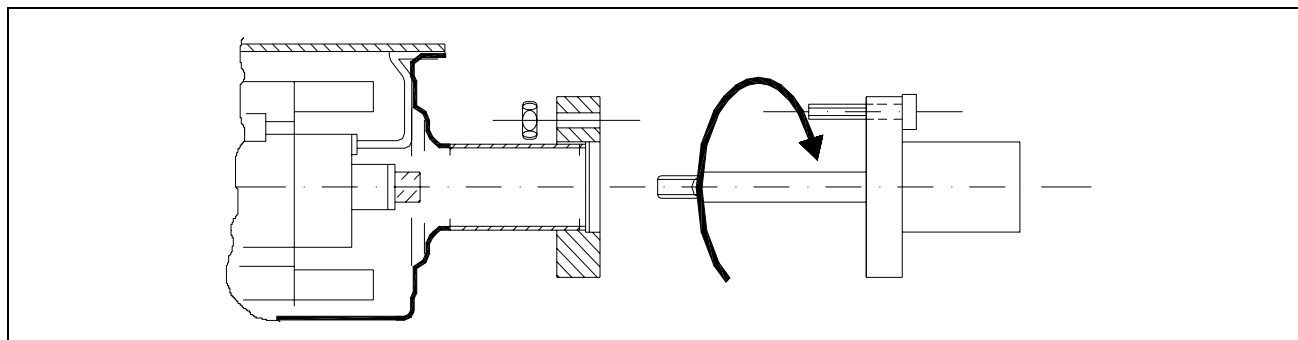

Fig. 19 - High voltage feedthrough connection
1. Remove the 6 bolts of the Mini-ConFlat flange connection (see Fig. 19).